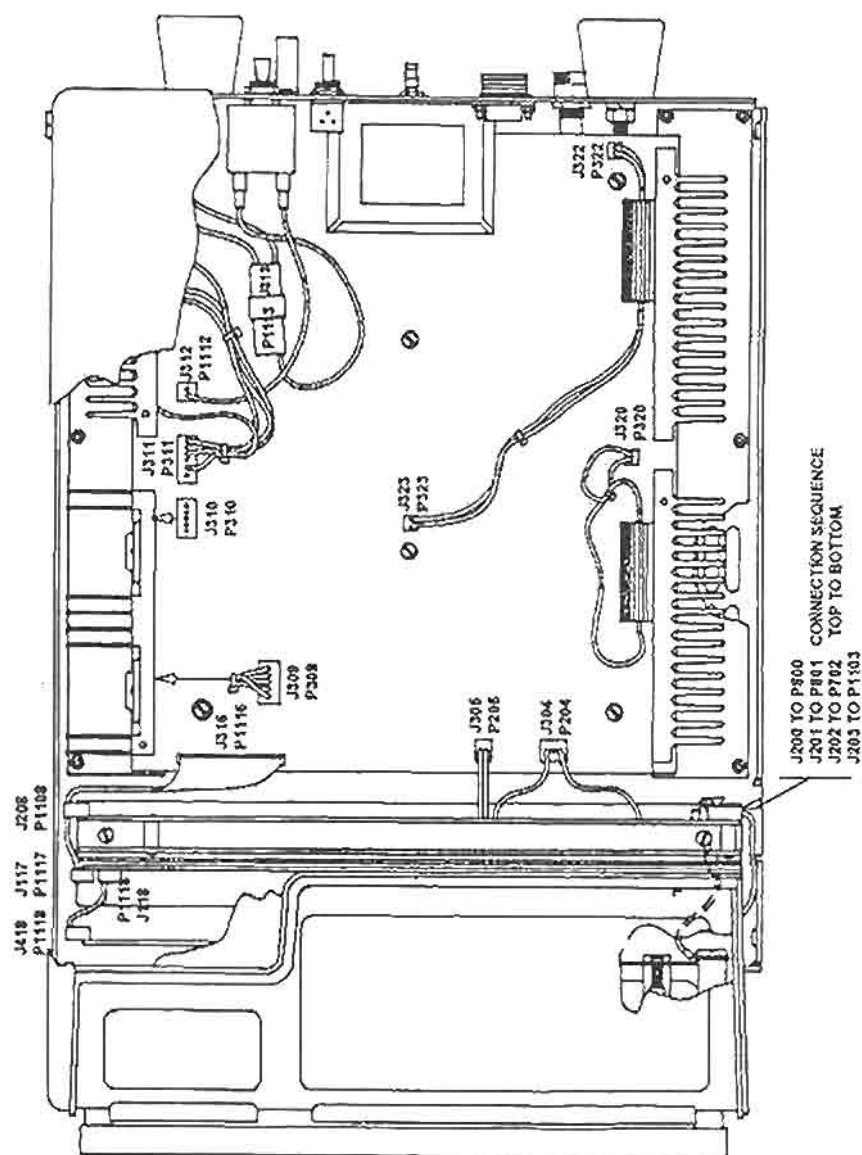

Figure 3-25. Connectors - view 1.
(1) Verify that the electrical power toggle switch, located on the back panel of the ES apparatus, is at the "O" symbol. Also verify that the electrical power cord is disconnected from the electrical receptacle.
(2) Remove the four slotted screws and lock-washers fastening the top cover of the ES apparatus to the base assembly. Set them aside.
(3) Remove the top cover by gently rocking it back and forth while simultaneously pulling upward. Set it aside.
(4) Disconnect the following electronic plugs (fig 3-25):
(1) Position the control panel assembly onto the base assembly.
(2) Reinstall the three hex socket screws into the lower front of the control panel assembly to fasten it to the base assembly.
(3) Reinstall the two slotted screws through the base assembly and into the RF shield bracket.
(4) Reinstall the handle.
(5) Reinstall the slotted screw and flat washer into the left-hand handle rod.
(6) Insert the slotted screw through the crimped terminal lug of the green/yellow electrical ground wire and then the flat washer. Reinstall the screw into the right-hand handle rod.
(7) Reconnect the following electronic plugs. (Refer to figure 3-25.)
(2) Remove the four slotted screws and lockwashers fastening the top cover of the ES apparatus to the base assembly. Set them aside.
(4) Disconnect the following electronic plugs. (Refer back to figure 3-25.)
- (4) Insert the longer slotted screw and flat washer through the mounting hole in the lower left side of the RF shield and then push the plastic standoff onto the screw. Then, while holding the screw and standoff with your fingers, position the screw into its mounting hole and reinstall the screw.
- (5) Position the RF shield into place and reinstall the slotted screw into its mounting hole in the lower right-hand corner of the MD/C PCB.
- (6) Turn the control panel assembly upright with the front control panel facing forward.
- (7) Connect P1118 to J118 on the left side of the MD/C PCB.
- (8) Position the control panel assembly onto the base assembly.
- (9) Reinstall the three hex socket screws into the lower front of the control panel assembly to fasten it to the base assembly.
- (10) Reinstall the two slotted screws through the base assembly and into the RF shield bracket.
- (11) Reinstall the handle.
- (12) Reinstall the slotted screw and flat washer into the left-hand handle rod.
- (13) Insert the slotted screw through the crimped terminal lug of the green/yellow electrical ground wire and then the flat washer. Reinstall the screw into the right-hand handle rod.
- (14) Reconnect the following electronic plugs. (Refer back to figure 3-25.)